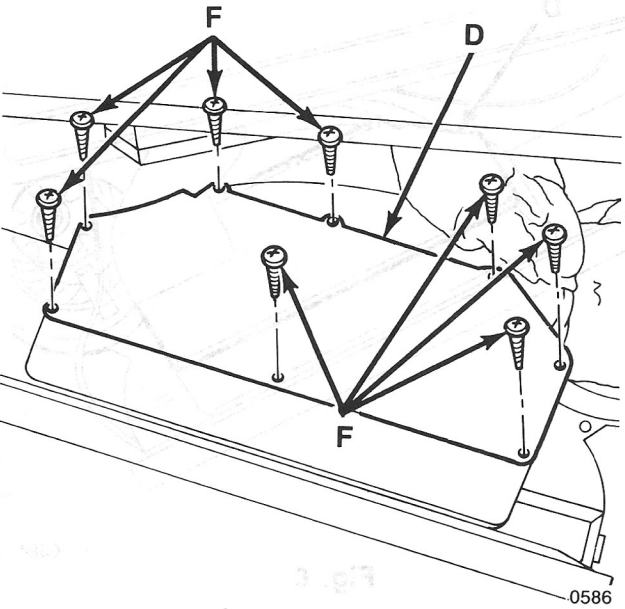

Fig. 8
5. Remove the mounting screws (F) retaining the evaporator housing cover (Fig. 8). Remove the evaporator housing cover (D).